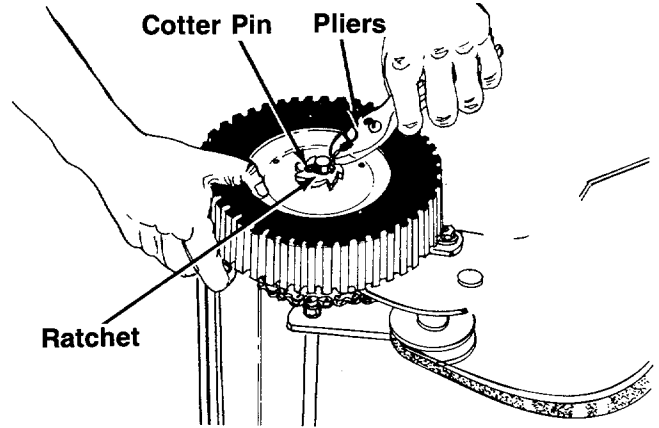

FIGURE 18.
5. Remove cotter pin and ratchet. A pair of pliers is required. See figure 18.